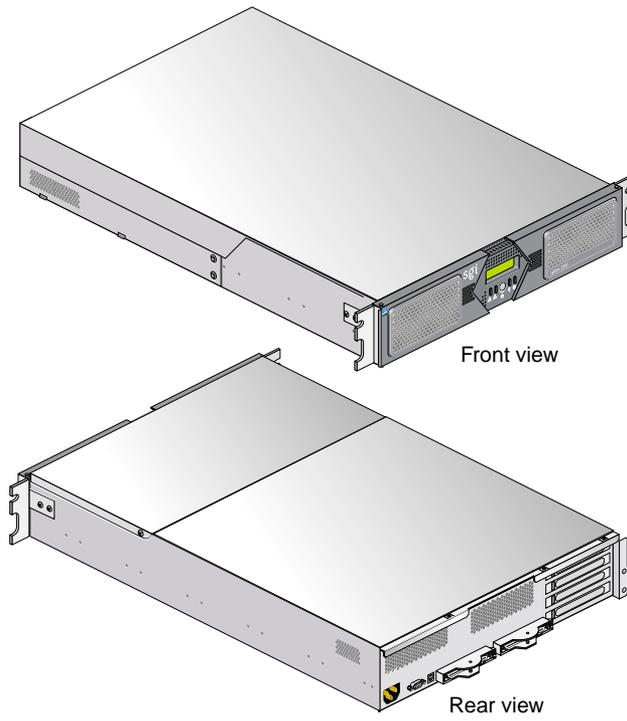

Figure 2-17 CMPX Module Front and Rear Views
- Four PCI/PCI-X slots (see Figure 2-17)